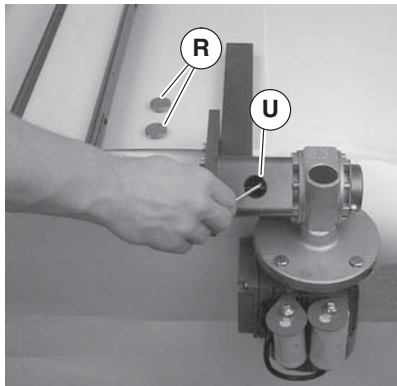

Figure 30
REPLACE INSPECTION PLUGS (Figure 30, item R) BEFORE RUNNING CONVEYOR.
12. Tighten coupling set screws (Figure 30, item U).